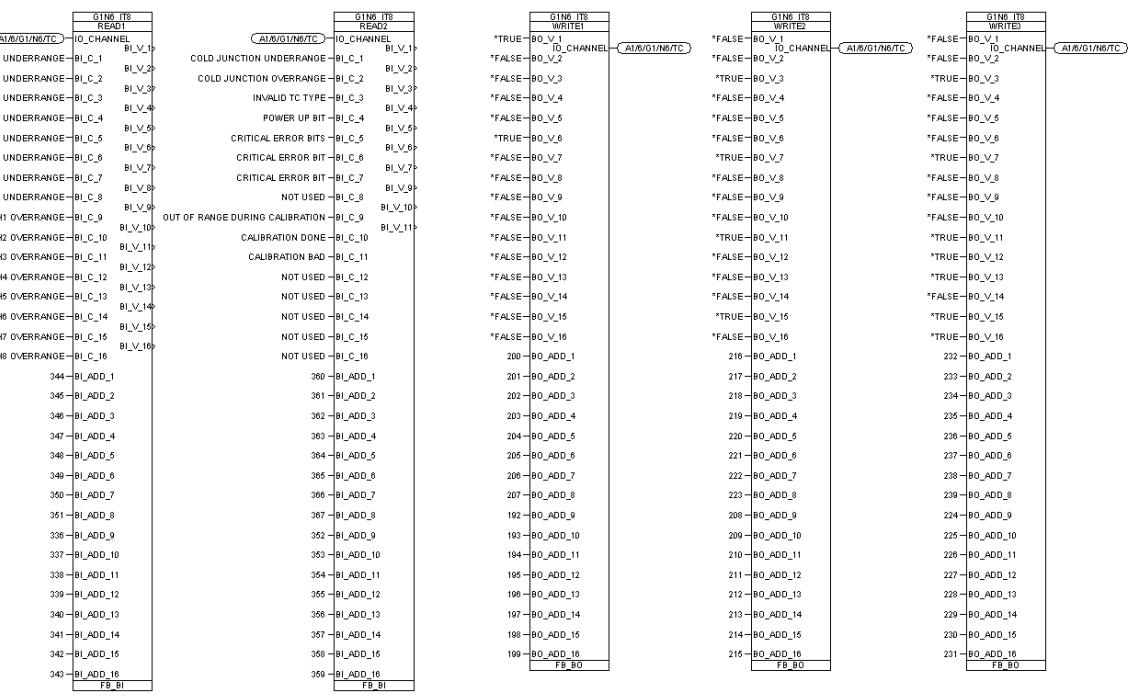

Figure 6-36. Example of 1794-IT8 Read and Write GAP Blocks
In this example, the first read block is set up to monitor the all of the under and overrange bits on the module. The second read block monitors the Cold Junction sensor underrange bit, Cold Junction sensor overrange bit, Bad Structure, Powerup bit, Critical Error bits, Calibration Range bit, Calibration Done bit, and Calibration Bad bit. The first write word(1) sets the module for °F units, 100 Hz filtering, and no calibration. The second write word(2) sets the module for type K thermocouples on channels 0, 1, 2, and 3. The third write word(3) sets the module for type K thermocouples for channels 4 and 5, cold junction (0-3) temperature on channel 6, and cold junction (4-7) on channel 7. See Figure 6-36 for GAP read and write block example.